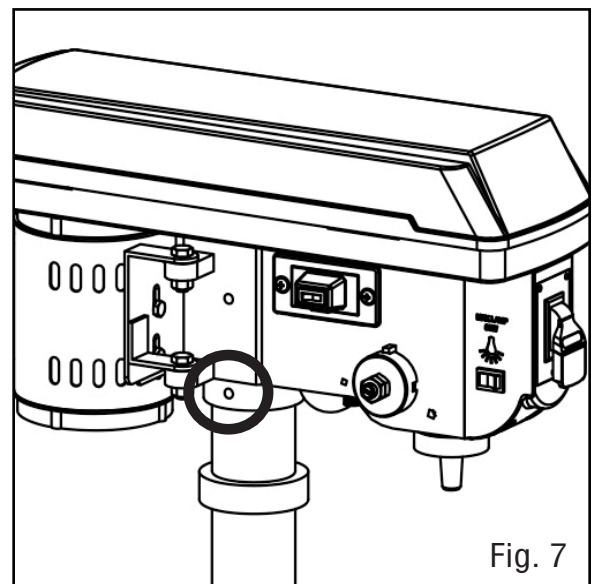

Fig. 7
4. Tighten the set screw using a hex wrench (Fig. 7).